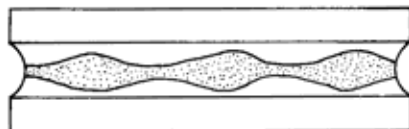

FIGURE 21
6. Multiple wide sections in track (Fig. 21) indicates out-of-round raceway as mounted.